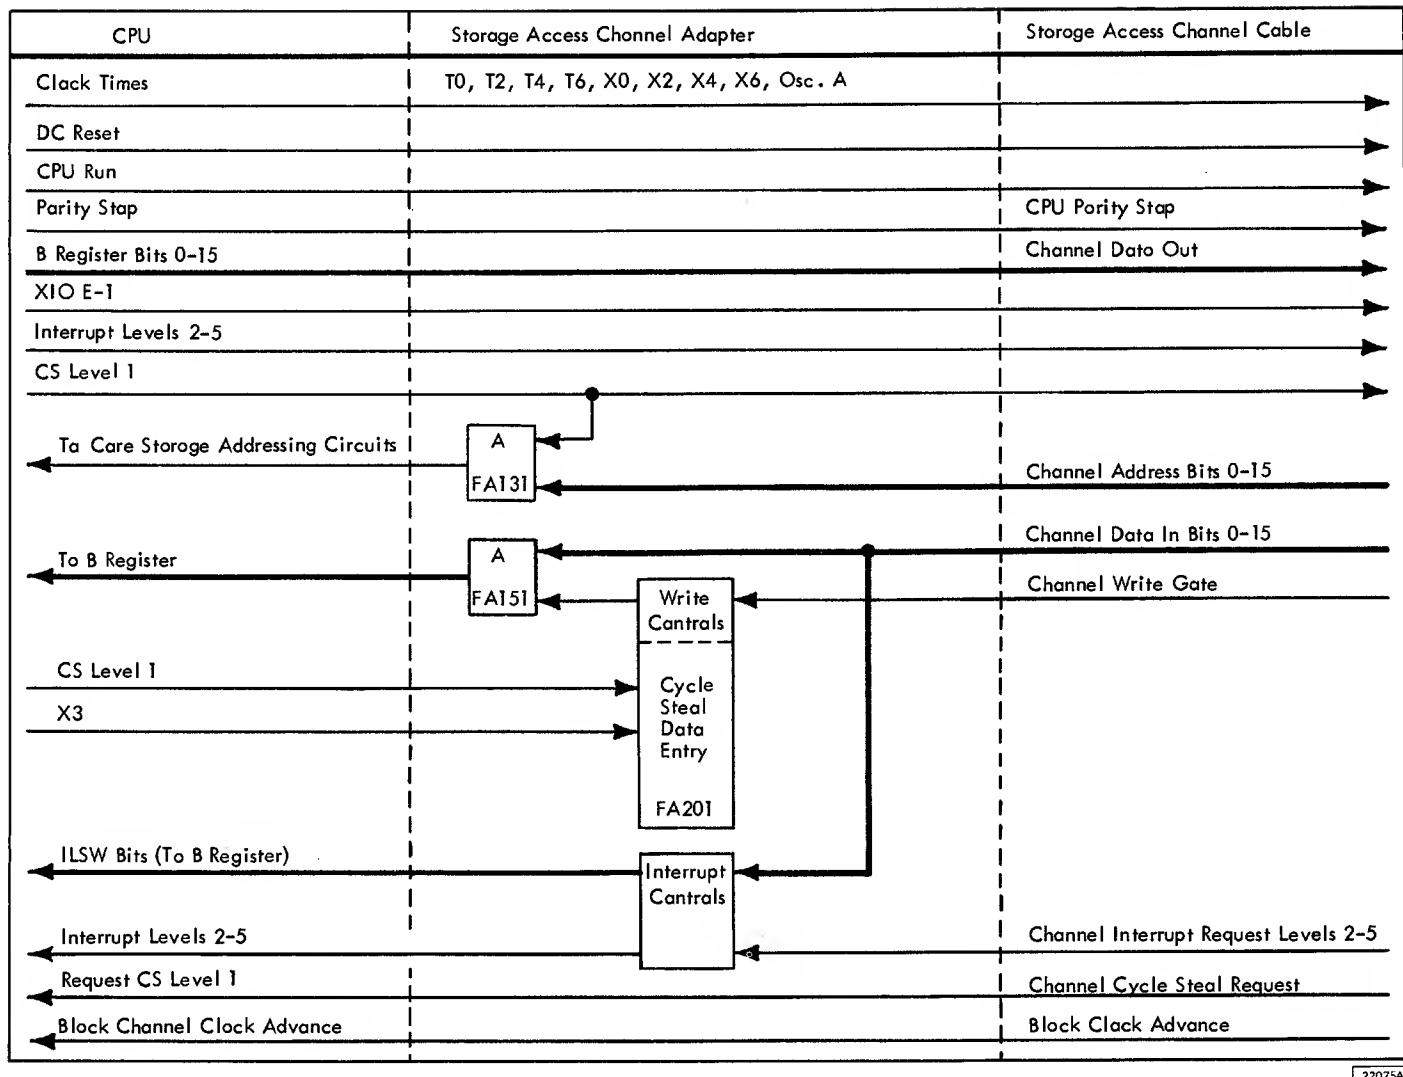

Figure 5-2. SAC Data Flow
- Storage access channel and adapter data flow is shown in Figure 5-2.
Many of the lines which make up the storage access channel cable pass through the adapter with no change (Figure 5-2). The connections are those needed to allow the exchange of data between the CPU and the external device connected to the SAC. Besides timing pulses from the CPU, control lines are required in both directions. Depending on the device, data lines may be required from the CPU, to the CPU, or in both directions.